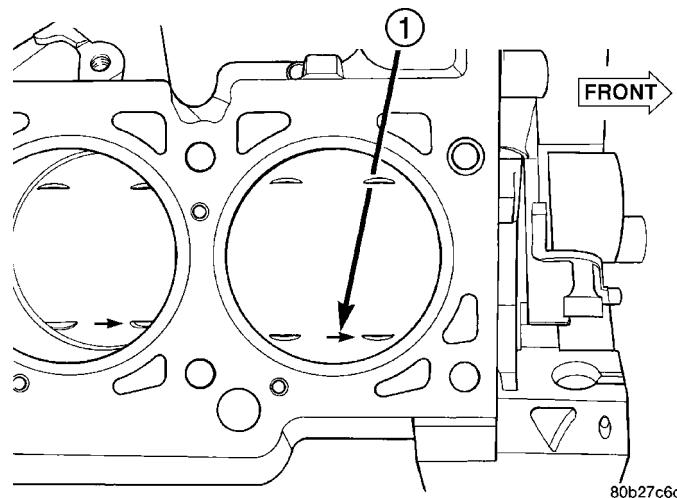

Fig. 86 Piston Orientation
(7) The arrow on top of piston must be pointing toward front of engine (Fig. 86) and oil squirt hole on connecting rod faces the major thrust (right) side of the cylinder bore (Fig. 87).